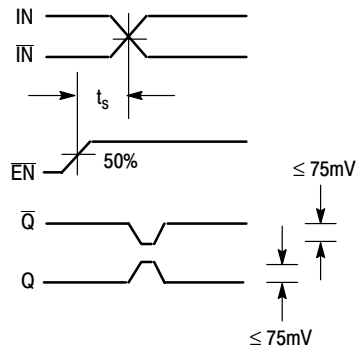

Figure 3. Setup Time
18. The setup time is the minimum time that  $\overline{\text{EN}}$  must be asserted prior to the next transition of IN/ $\overline{\text{IN}}$  to prevent an output response greater than  $\pm 75\text{ mV}$  to that IN/ $\overline{\text{IN}}$  transition (see Figure 3).